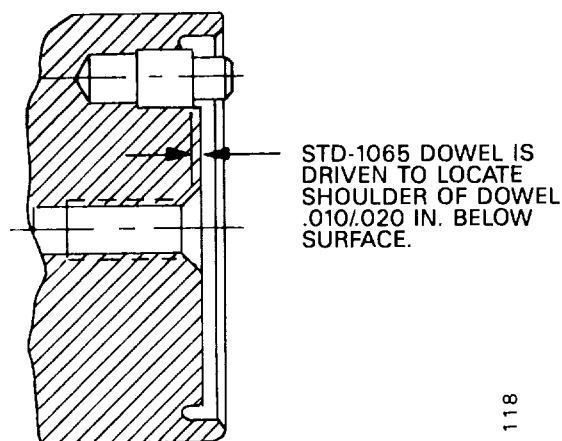
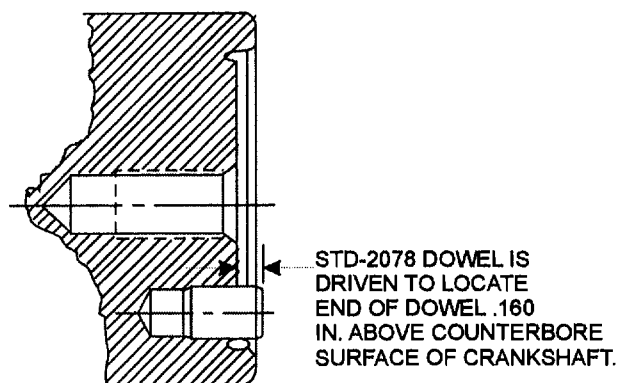

Figure 7-12B. Section Thru End of Crankshaft Showing Driven Height of STD-1065 Dowel
Figure 7-12C. Section Thru End of Crankshaft Showing Driven Height of STD-2078 Dowel
2. Check the condition of the dowel in the end of the crankshaft. It should be perfectly smooth with no indication of nicks or deformation. If it is out-of-round, it should be removed and replaced with a new one. Replacement instructions are in step 4. If dowel condition is acceptable, insure that it is installed as shown in Figure 7-12B. or Figure 7-12C.